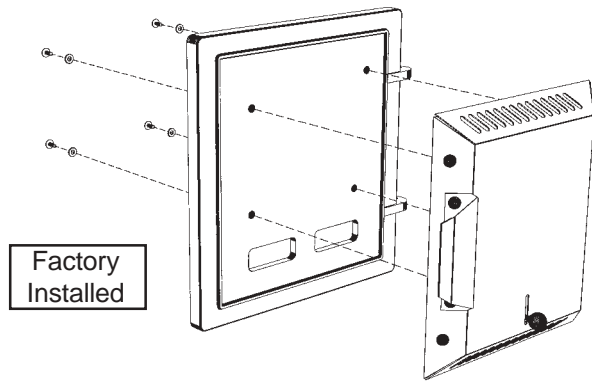

Fig. 8
2. Assemble the feed door pull handle as shown in Figure 8.